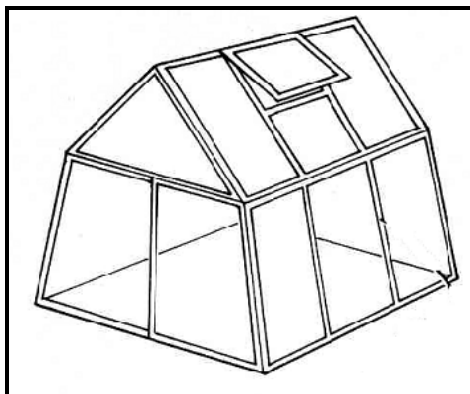

FIGURE 3.2
- 3.2 FIGURE 3.2 below shows the frame of a greenhouse made from stainless steel tubing. Answer the questions that follow.